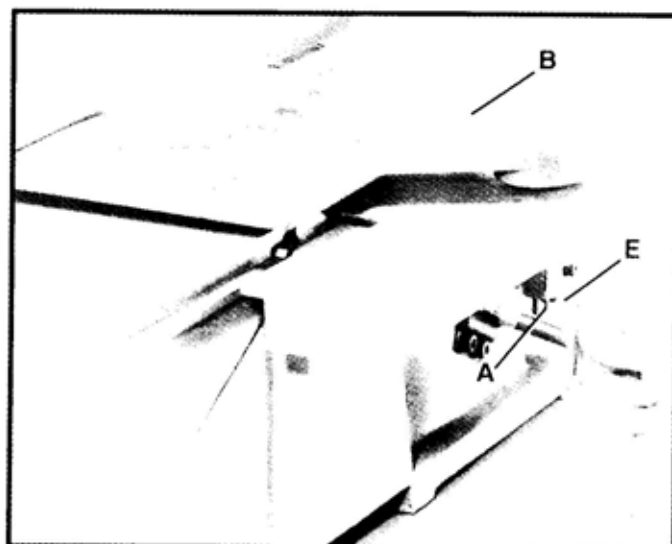

Fig. 21
3. Thread set screw (E) Fig. 21, which was removed in STEP 1, into post (A) to keep cutterhead guard (B) in position in open position.